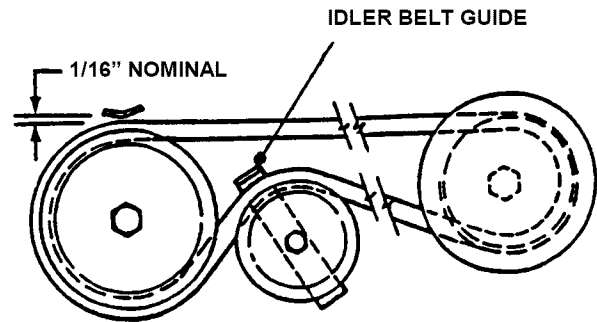

FIGURE 4.15
9. Route belt onto spindle pulley. Make sure belt is inside spindle belt guide and idler belt guide. Route belt as shown for the individual models shown in Figure 4.15.
11. Adjust belt guide. See Figure 4.15 for proper belt-to-belt guide clearances.